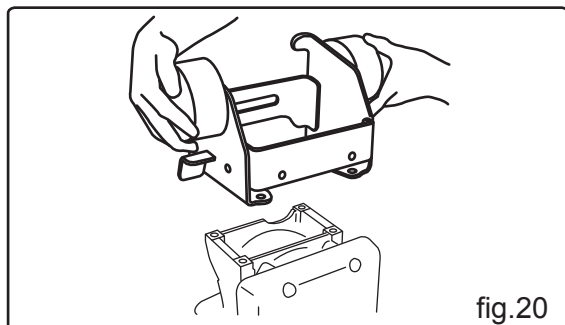

fig.20
E. Remove the shock absorber bracket (31) by unscrewing 4 pcs bolts (32) which fixing it. (fig.20)